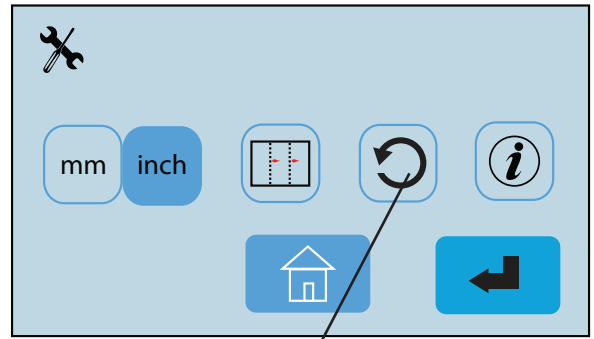

Fig. 30
1. From the Operator Settings screen press the Default Settings icon  (Fig. 30). A confirmation screen will come up (Fig. 31). Press the green box with the check to confirm or the red box with the X to cancel the setting.